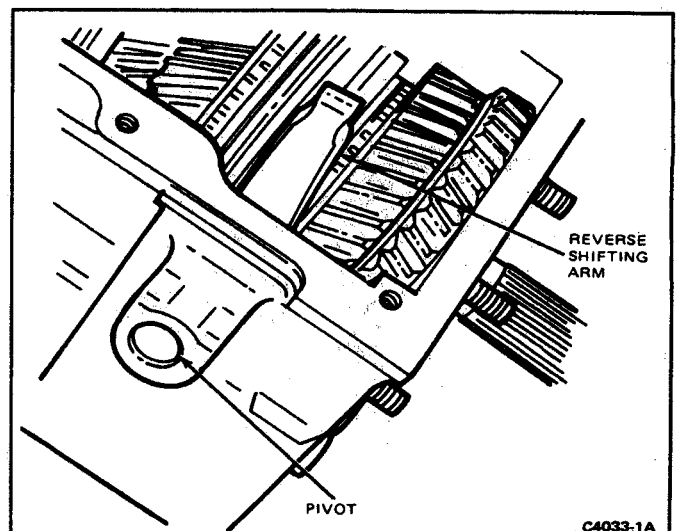

FIG. 14 Reverse Shifter Arm Installation
8. With the output shaft shifted slightly to the right, position the reverse shifter arm and shoe assembly on the reverse idler gear. Install the pivot screw through the hole in the left side of the case and into the shifter arm hole (Fig. 14). Install the spring clip to retain the shifter arm to the pivot screw. Center the output shaft to the case bore.